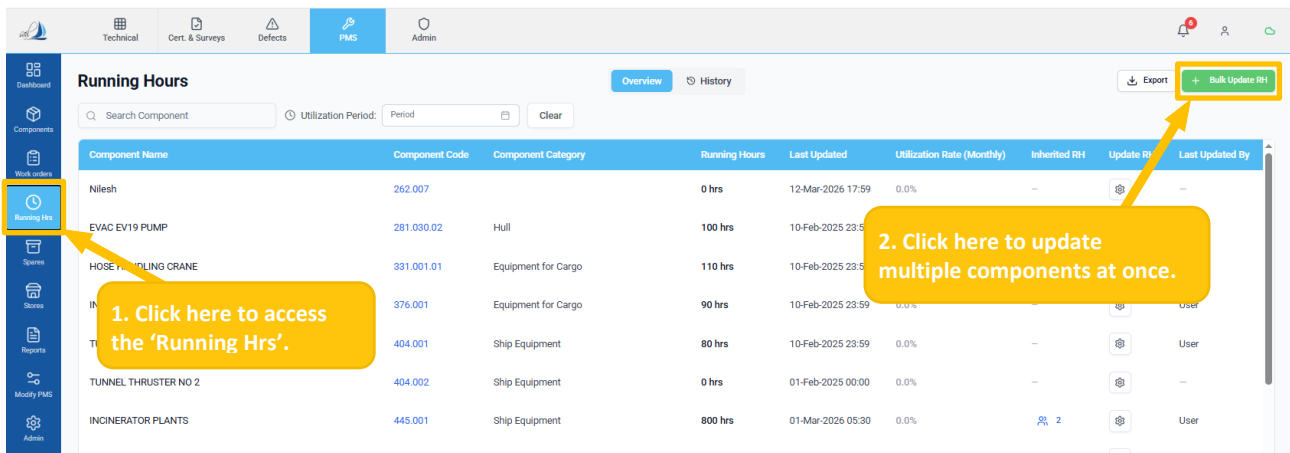

Figure 49
- Click on the 'Running Hrs' sub – sub module. (Ref Figure 49)
- Click on the '+ Bulk Update RH' button to update multiple components at once. (Ref Figure 49)